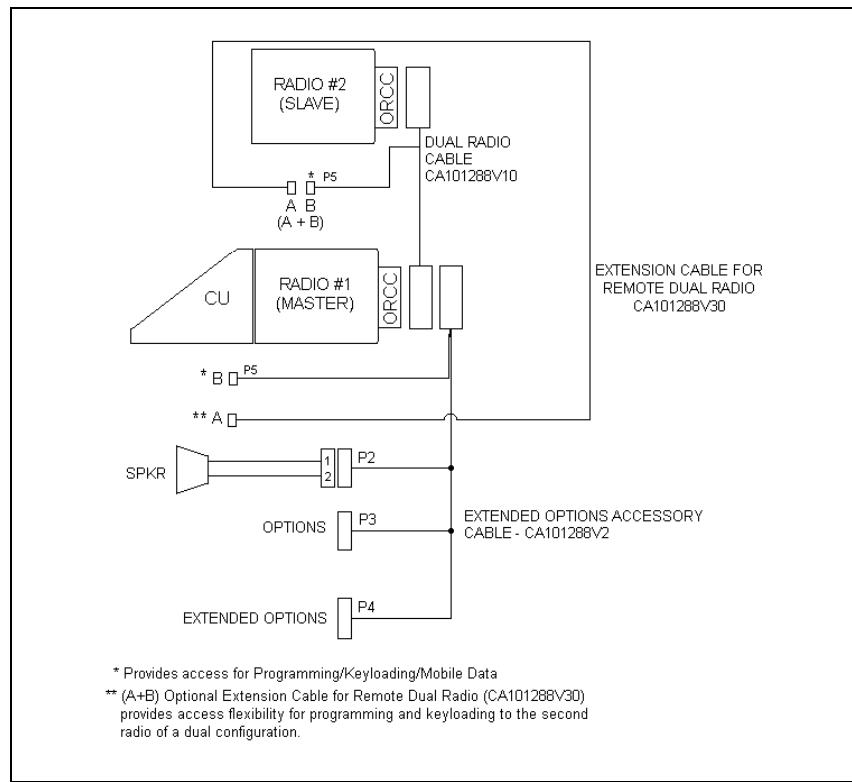

Figure 31 - M7100^{IP} Dual Radio Front Mount/Remote Mount Installation Configuration
1. Plan the mounting locations of the two Radio Units. Note that the maximum cable length allowed between the two radios is two meters. Referring to Figure 31, run Dual Radio Cable (CA101288V10) between locations for Master and Slave Radio Units. Be sure to locate the P2/P3 connector assembly at the Master Radio Unit.